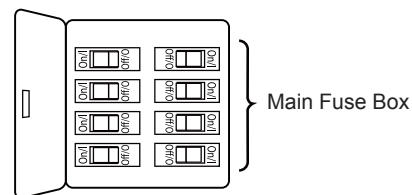

Figure 1
1. Position blade along the motor, aligning blade holes with holes in the top of the motor assembly flywheel. Make sure the blade is fully seated against the flywheel and install 3/16"-24 truss head screw with spring washer/flat washer and blade plate. Don't fully tighten at this time. (Figure 1)
1. Remove the hanger ball portion from the downrod/hanger ball assembly by loosening the set screw in the hanger ball until the ball falls freely down the downrod. Remove the pin from the downrod, then remove the hanger ball. Retain the pin and hanger ball for reinstallation in Step 6. (Figure 1)
To avoid possible fire or shock, be sure electricity is turned off at the main fuse box before hanging. (Figure 1)
- ☐ 1. To set the code on receiver unit, slide dip switches to the same positions as set on the remote control. (Figure 1)